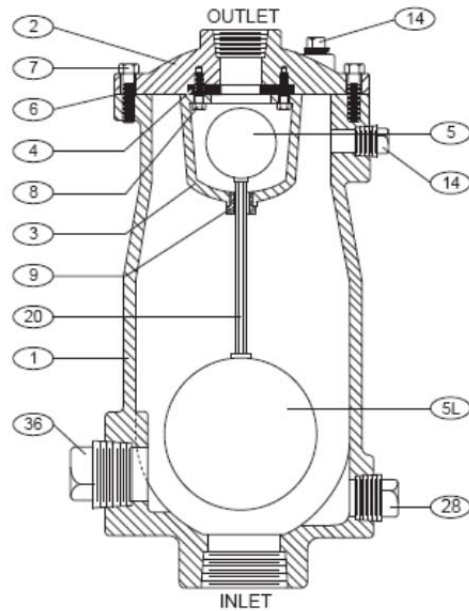
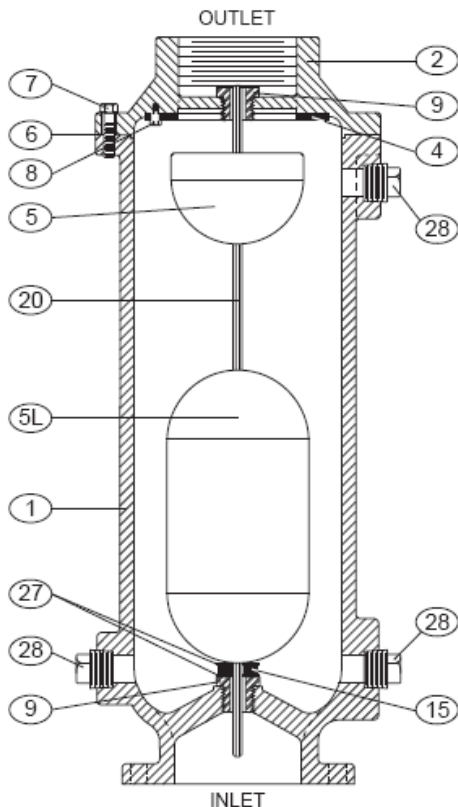

Figure 2. 1"-3" Wastewater Air/Vacuum Valve
Figure 3. 4"-8" Wastewater Air/Vacuum Valve
The standard Wastewater Air/Vacuum Valve body and cover are cast iron. See specific Materials List submitted for the order if other than standard cast iron construction. All internal metal components are stainless steel with the exception of the seat, which is resilient. The general details of construction for 1" through 3" valves are illustrated in Figure 2. The general details of construction for 4" through 8" are illustrated in figure 3. The body (1) is threaded or flanged for connection to the pipeline.
All parts must be cleaned and gasket surfaces should be cleaned with a stiff wire brush in the direction of the serrations or machine marks. Worn parts, gaskets and seals should be replaced during reassembly. Refer to Figures 2 and 3.